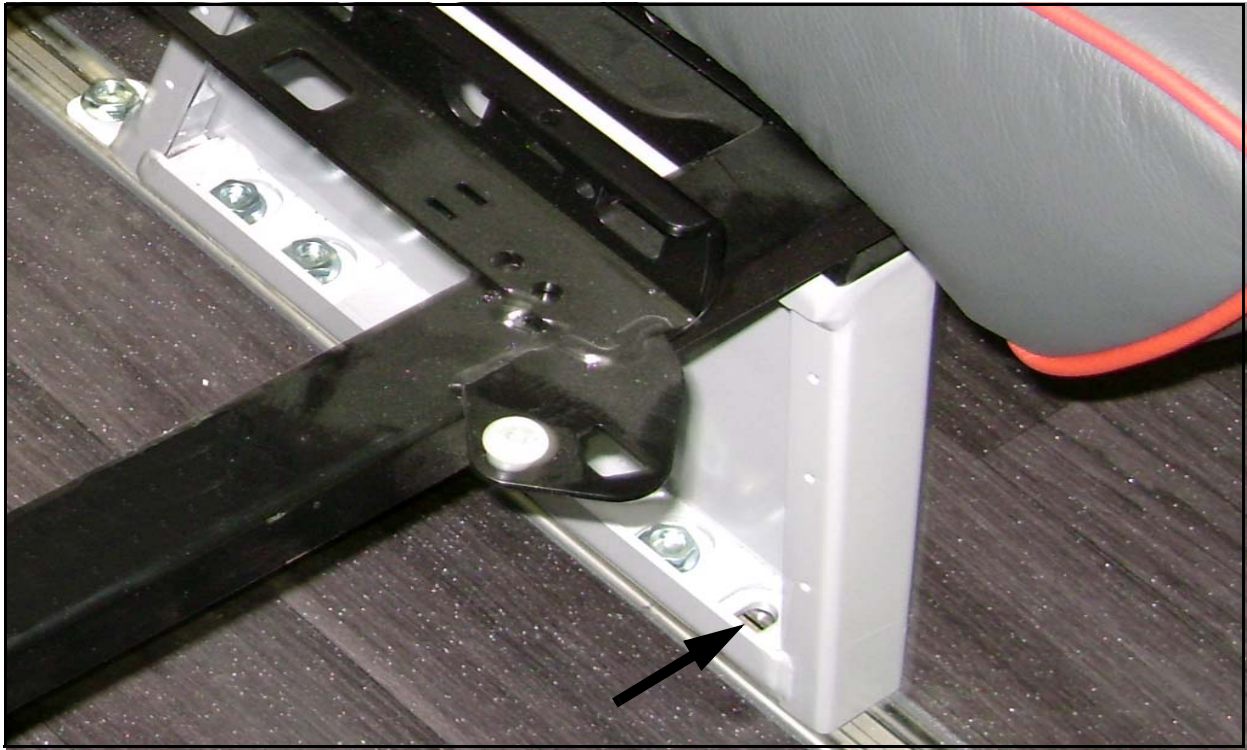

Figure 2. Correct installation of mounting hardware.
If the mounting hardware is installed correctly as shown in Figure 2, no further action required. Re-install the cover panel to the seat base using the two (2) snap fasteners, p/n 19-05-0304.